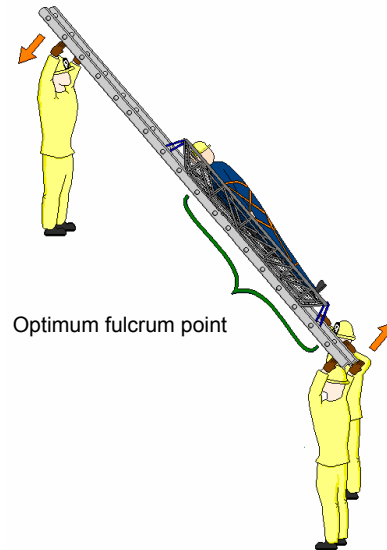

Figure 15-7: Swing System Up and Out
- ☐ Be aware of where the fulcrum point is located when levering the ladder. (Figure 15-7)